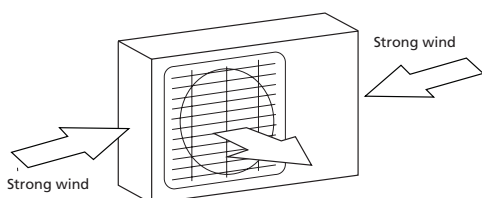

Fig. 5.1
- ☑ If the location is exposed to strong winds (for example: near a seaside), the unit must be placed against the wall to shelter it from the wind. If necessary, use an awning. (See Fig. 5.1 & 5.2)